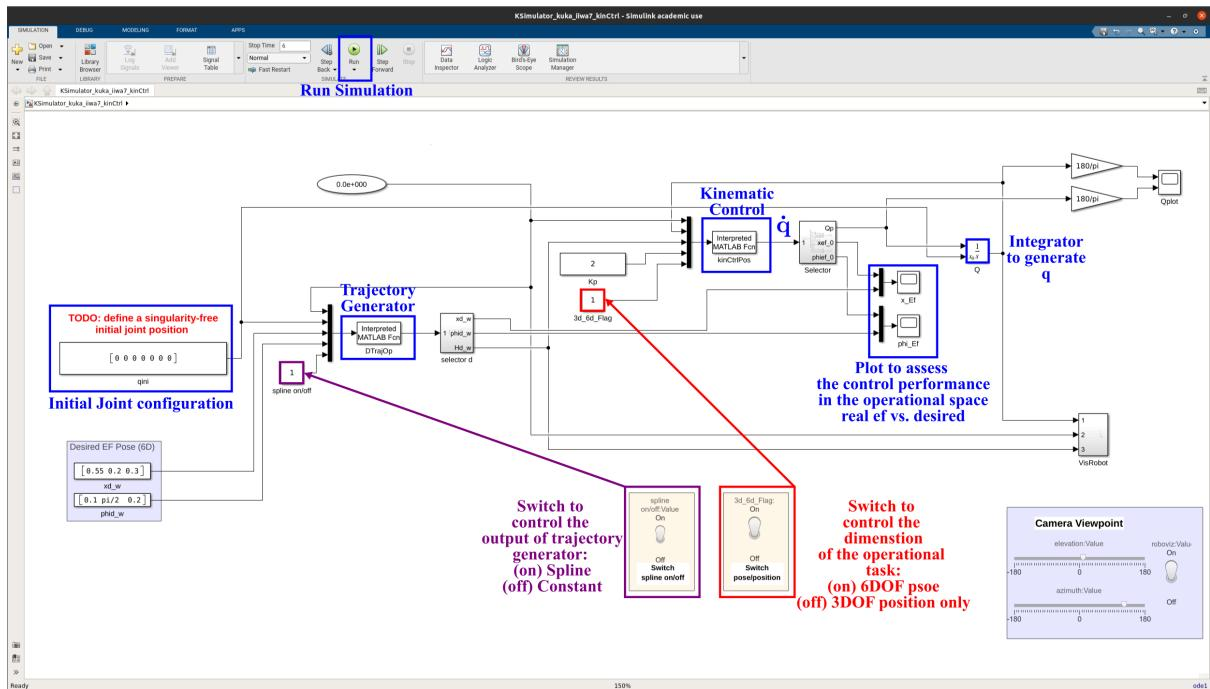

Figure 5: Simulink model for the Kinematic Controller in the Operational Space.
In this exercise, you will simulate the operational kinematic controller under different conditions. To run the simulator, run the **KinematicControl/run\_kuka\_iwa7\_KinCtrl.m** script, which will open **KSimulator\_kuka\_iwa7\_kinCtrl.slx** (see Fig. 5). This Simulink model offers two switches to control the output of the trajectory generator (Spline/constant) and the dimension of the operational task (6DOF/pose or 3DOF/position).
**Task 1:** The initial joint position is defined by a Constant block, see Fig. 5. The default initial position sets the robot in a singular configuration, i.e., the Jacobian is not full-rank. You need to define a initial position  $\mathbf{q} = [q_1, q_2, q_3, q_4, q_5, q_6, q_7]^\top$  in such a way that the robot is not in the singular configuration.